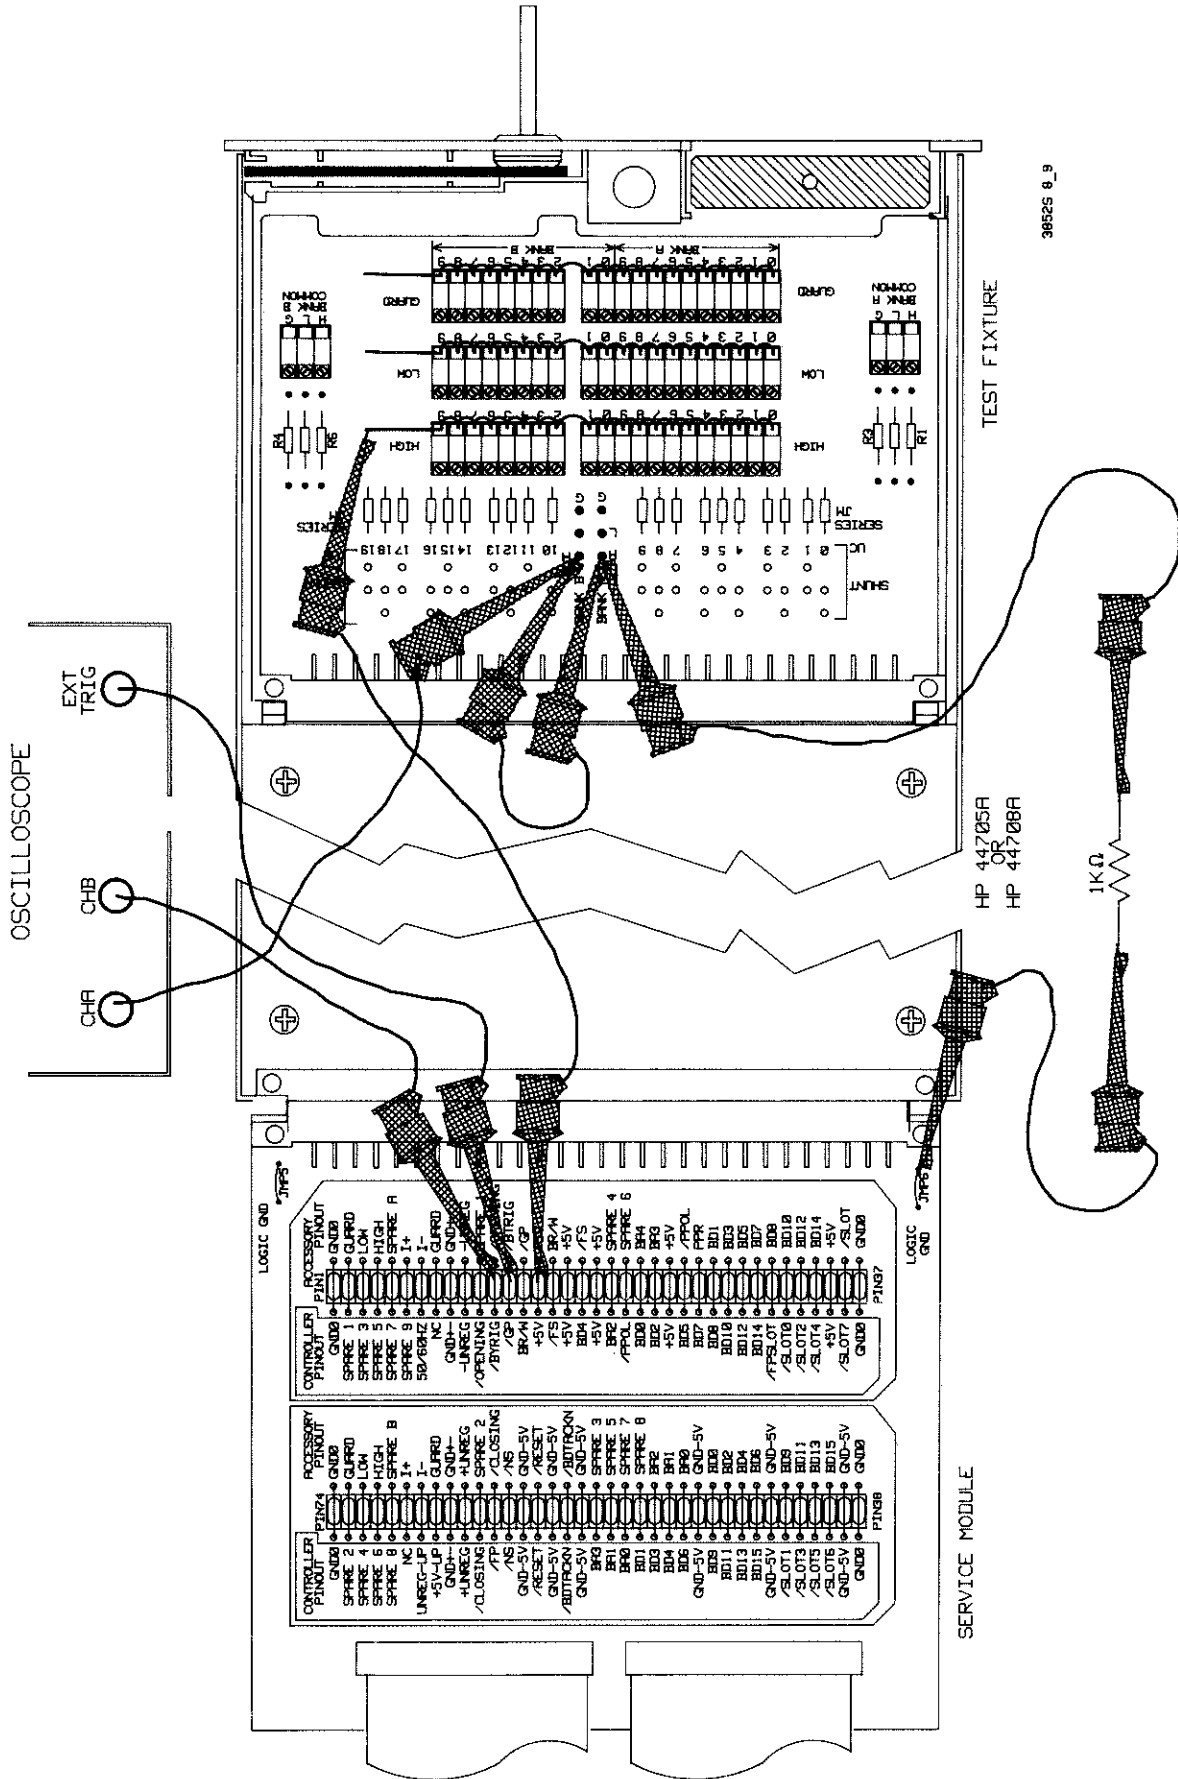

Figure 8-10 HP 44705A/H Opening Time Set-Up
1. Remove power from the HP 3852A and unplug the relay multiplexer to be tested. Install the Service Module in a convenient slot in the HP 3852A. Note the slot number where the Service Module is installed. Install the relay multiplexer on the service module. Install the test fixture on the relay multiplexer. The Set-Up Procedure is shown in Figure 8-10.